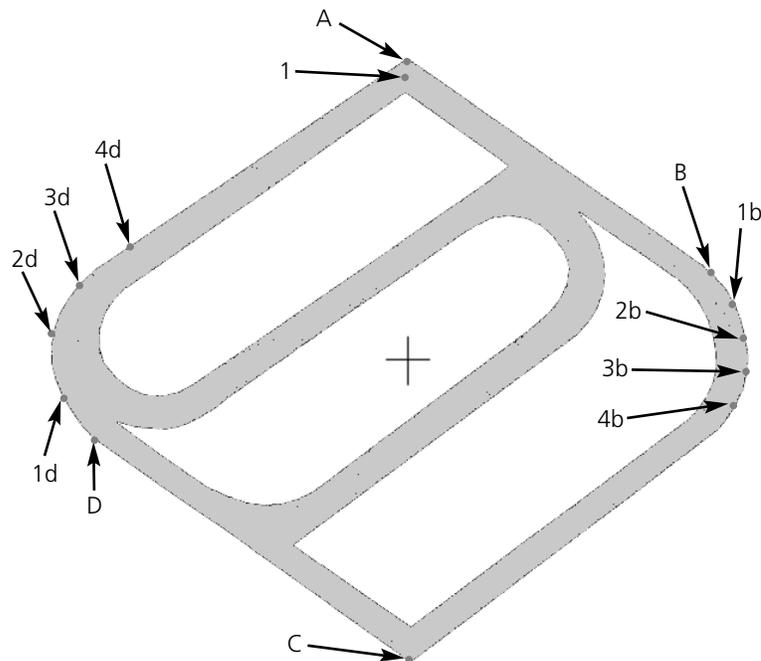

Figure 5-66
2. Click in the area in the shape identified as location 1 in Figure 5-66 and enter a Mk1.
4. Generate the lock stitches at location 1 in Figure 5-66.
- Enter a Mk1 in the very top of the design shown as item A in Figure 5-66.
- Enter another Mk1 at approximately point B in Figure 5-66.
- Now digitize around the curve of the design on the right edge with Mk4s at the approximate locations 1b through 4b as shown in Figure 5-66.
- Enter another Mk1 at point C on the very bottom corner of the design as shown in Figure 5-66.
the left edge of the design in the approximate locations shown as 1d through 4d in Figure 5-66.